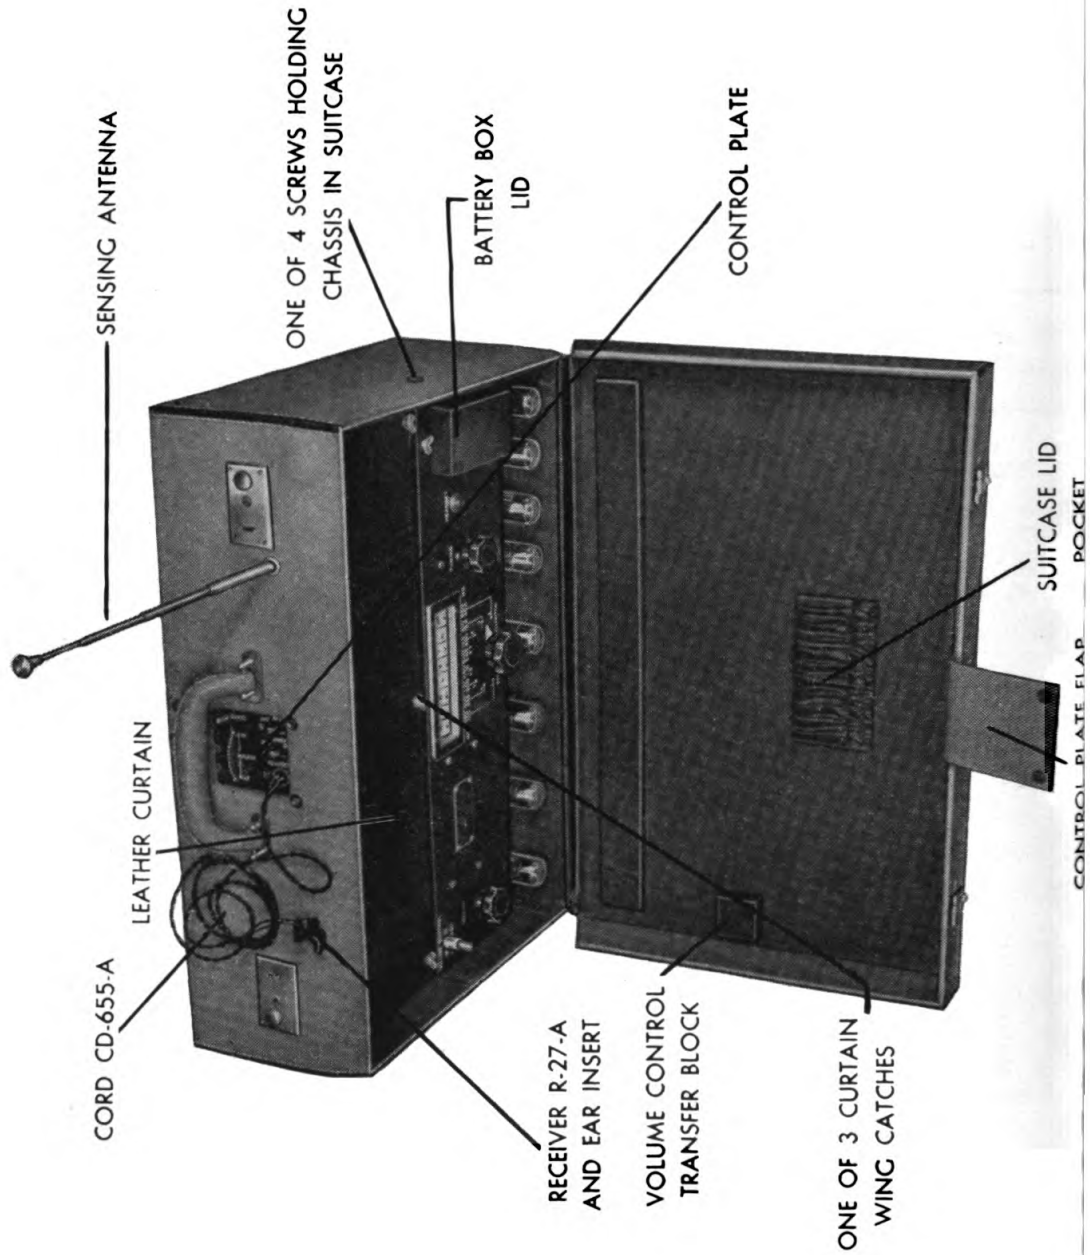

Figure 2. Radio Receiver BC-792-A, with the Suitcase Open Showing Contents, and the Sense Antenna up
In figure 1 you see Radio Receiver BC-792-A as it looks to the ordinary person—just another pigskin suitcase. In figure 2 you see the suitcase open showing the radio set, while in figure 14 you see “yourself ” carrying the receiver and operating it as you walk. It's true—you can “direction find”—d/f—as you walk along, or you can set Radio Receiver BC-792-A on the ground, or on a tree stump, and d/f from there.
(See figures 2, 3, 4 and 6)
- (1) Throw **METER RANGE** to first **B** position.
- (2) Push **BATTERY LOAD TEST** button and read voltmeter.
- (3) Throw **METER RANGE** to other **B** position.
- (4) Push **BATTERY LOAD TEST** button and read voltmeter again.
- (5) Both batteries should measure at least 36 volts under load.
10. Preparing Radio Receiver BC-792-A for Use (figure 2).—To make Radio Receiver BC-792-A work do the following: